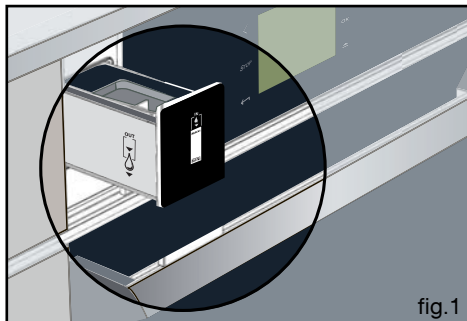

fig.1
Press the  button, the filling drawer pops out (fig.1).
- Place a container under the drawer to collect any water (fig.1).
- The pump is continuously activated and the water escapes through an opening located under the drawer (fig.1).